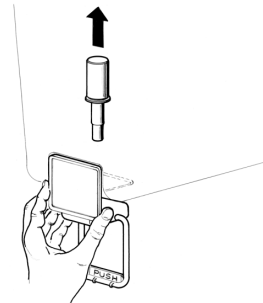

figure 3
- 6 **Gravity faucet:** extract the piston and then remove the dispensing handle (see figure 3).